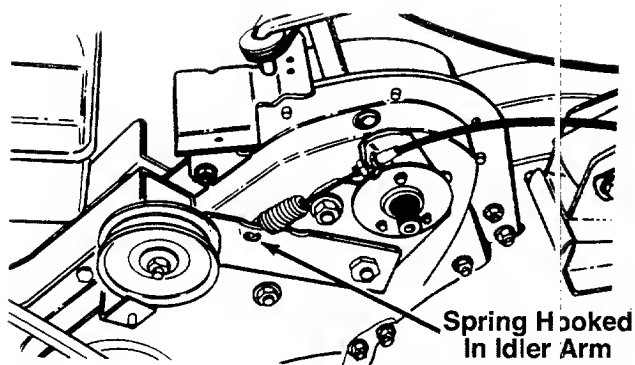

FIGURE 9.
21. Hook the spring into the hole in the idler arm bracket. See figure 9.